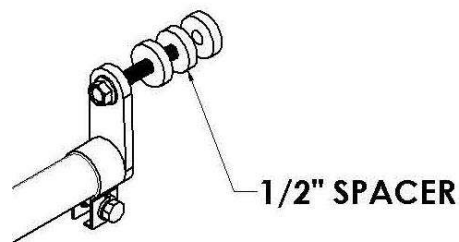

Figure 6
- C. Spacers are supplied to bring the steel swivel away from the frame in the event of any obstructions (Figure 6).